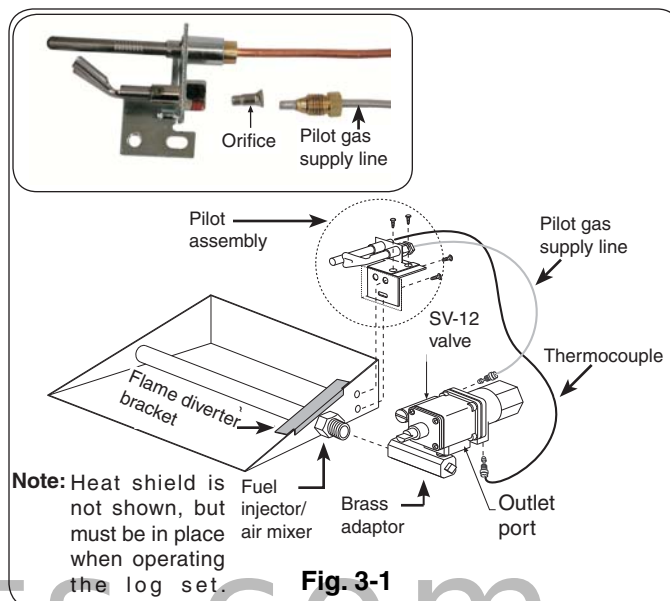

Fig. 3-1
The safety pilot kit is shipped with a natural gas orifice installed unless the safety pilot kit was received in the same box as the propane burner. To change from natural to propane gas, remove the pilot gas supply line at the pilot end. Replace the natural gas orifice with the propane gas orifice contained in the yellow envelope marked "L.P.-GAS", provided in the bag. Reattach the pilot gas supply line to pilot (Fig. 3-1).
- Screw the brass adapter to the fuel injector or air mixer on the burner (Fig. 3-1).